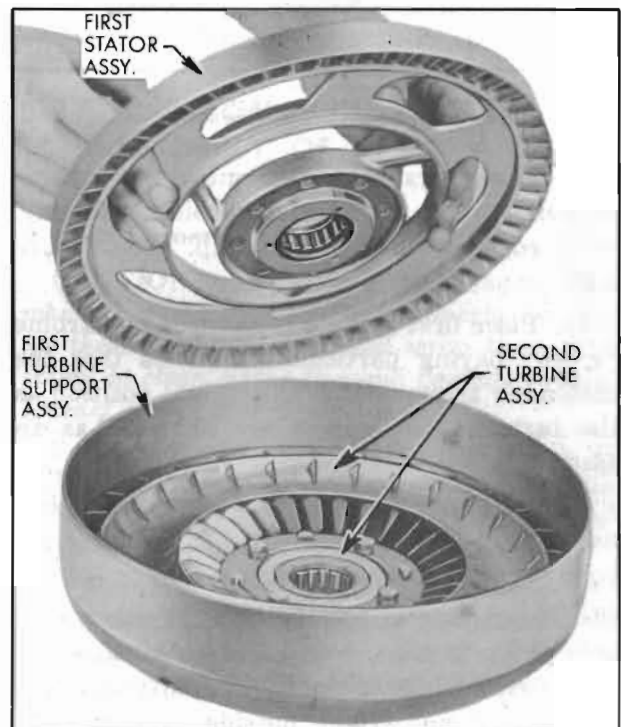

Figure 5-62—Installing First Stator Assy.
13. Lower first stator assembly into turbine support on top of second turbine assembly. Wide edge of stator blades "up." See Figure 5-62.